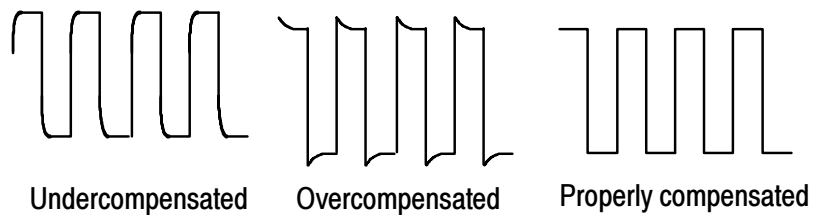

Figure 8: Probe compensation waveforms
8. Adjust the trimmer in the probe (accessible through the compensation box) until you see a square wave with a perfectly flat top on the display. Refer to Figure 8, below.